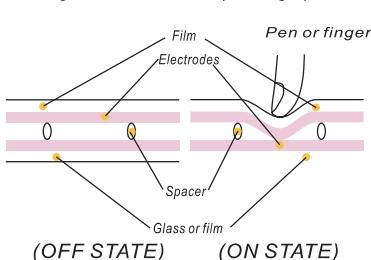

Fig2
- The touch panel has as numerous push-button switches as the keys arranged in a matrix (see fig 2).